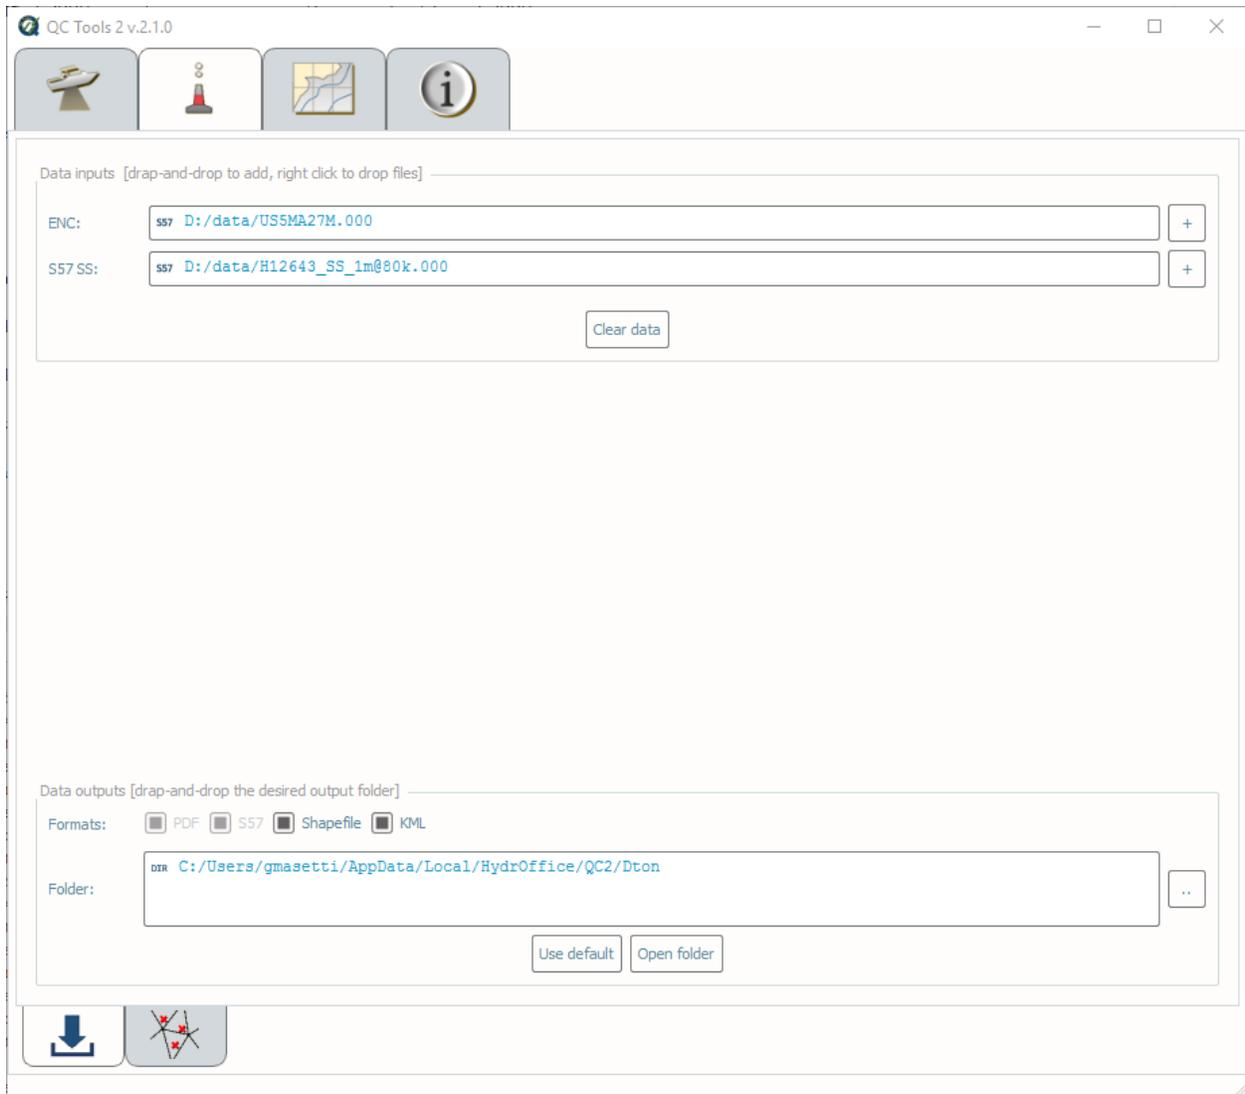

Fig. 2.36: DtoN tab.
- With the addition of a ENC and sounding selection, the **Triangle Rule** tab on the bottom of the interface will become available (Fig. 2.36).